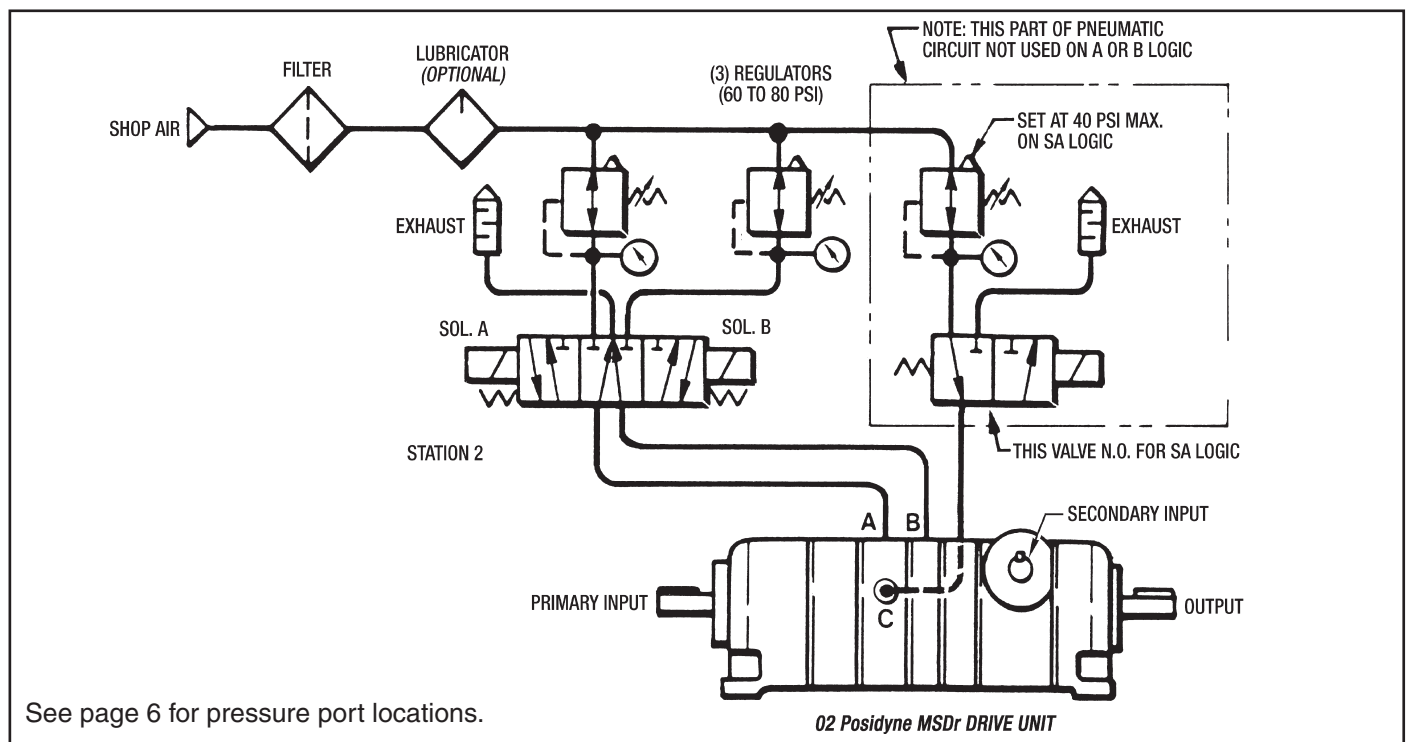

Figure 3.1 - Typical Pneumatic Schematic
Note the following when planning and installing the Pneumatic System (See Figure 3.1):
2. Recheck Air Connections for tightness to see if they are correct as shown in the Pneumatic Schematic (Figure 3.1).